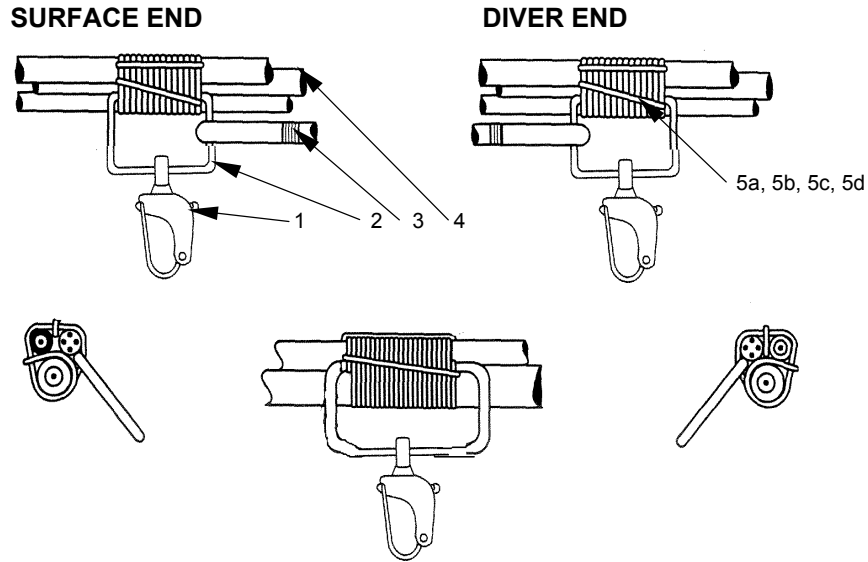

Figure 3-9. Seizing D-Ring to Umbilical Assembly
- e. Place D-ring at the reference mark. See Figure 3-9.
- f. Using 3/16” nylon cord (Table 3-8, item -5a), seize the D-ring to the umbilical assembly as follows. See Figure 3-9.